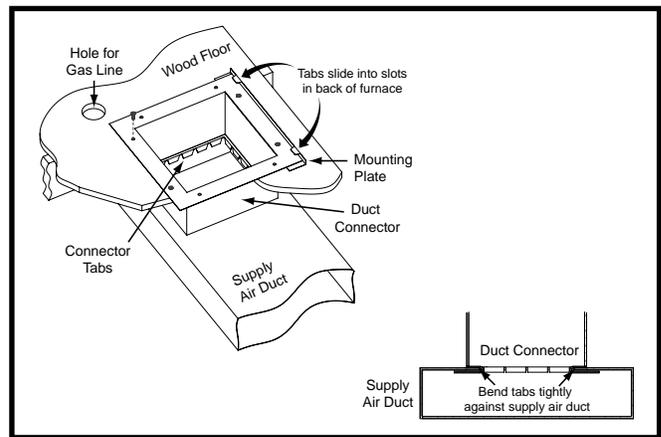

Figure 11. Finger Tabbed Duct Connector
2. Mark the cut-out area on the supply air duct by tracing around the connector tabs (Figure 11, page 16) of the duct connector.
5. Install the mounting plate (Figure 11) under the back side of the duct connector. Align the screw holes in both components.